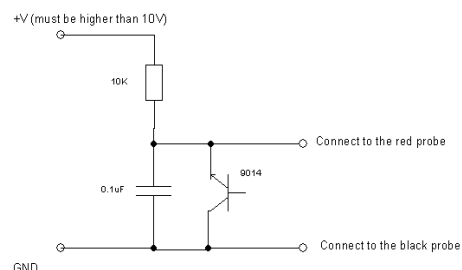
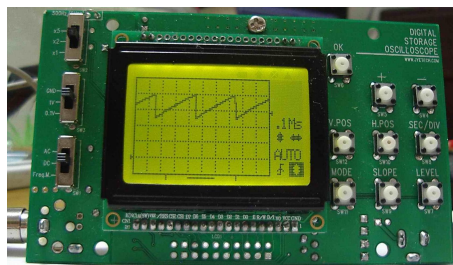

Fig. 5
Fig. 6
Fig. 5 is a simple saw signal generator. We can use the scope to observe its output. Build the circuit according to Fig. 5 and connect power and scope.
- 2) Connect probes as shown in Fig. 5. Power the circuit. You should see a waveform similar to that shown in Fig. 6.